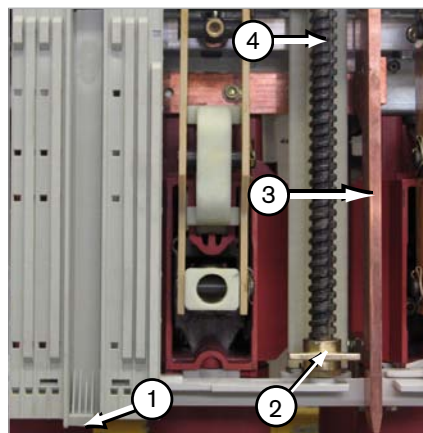
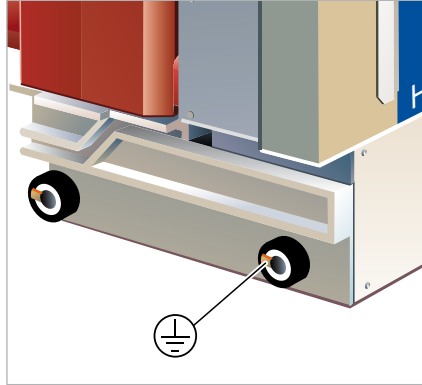
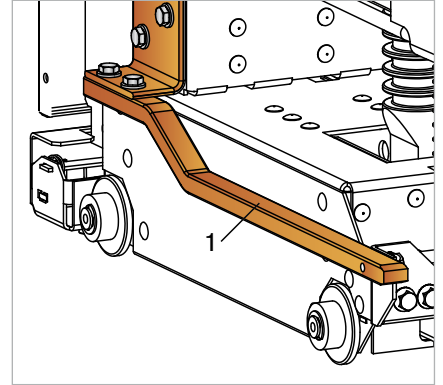

Fig. 27
Fig. 29
Fig. 30
- Optionally, HVX trucks and panels may be coded to match (Fig. 27). This is to prevent a truck from being racked completely into the panel if the ratings do not match.
- The HVX trucks must latch in the lock rockers of the panels (Fig. 27).
The equipotential bonding connection of the circuit-breaker and the panel is effected via the two front truck rollers (Fig. 29). The HVX-E circuit-breaker is optionally available with short-circuit proof earthing (Fig. 27 item 3 and Fig. 30).